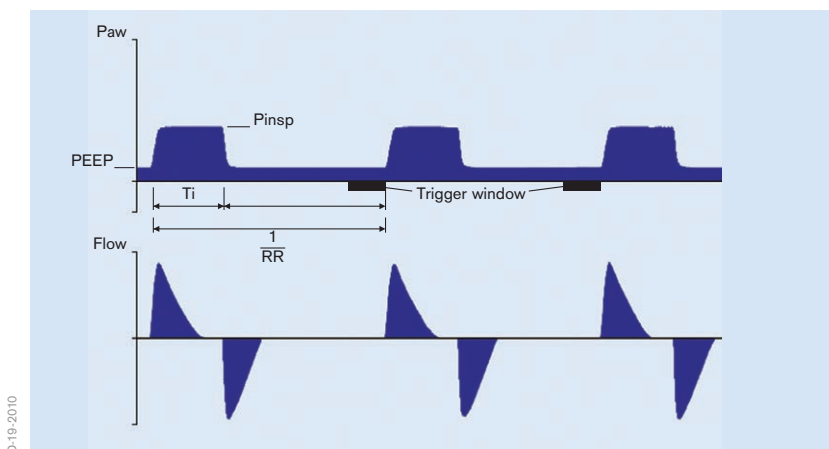

Figure 21: PC-AC
- permitted spontaneous breathing during the whole breathing cycle (Figure 21)